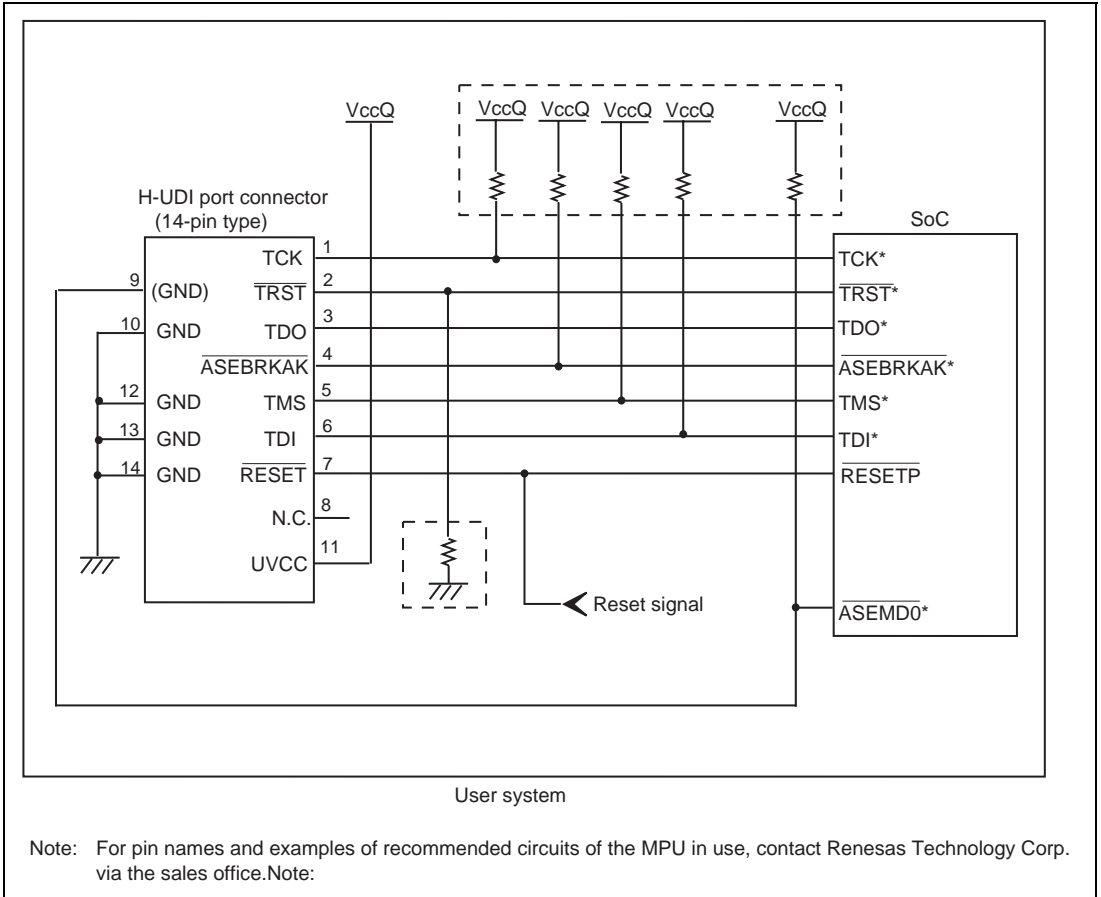

Figure 1.5 Recommended Circuit for Connection between the H-UDI Port Connector and MPU when the Emulator is in Use (14-Pin Type)
Figure 1.5 shows a recommended circuit for connection between the H-UDI and AUD port connectors (14 pins) and the MPU when the emulator is in use.
(1) When the emulator is used: /ASEMD0 = 0
(2) When the emulator is not used: /ASEMD0 = 1
Figure 1.5 shows an example of a circuit that allows the /ASEMD0 pin to be GND (0) whenever the emulator is connected by using the user system interface cable.
When the circuit is connected as shown in figure 1.5, the switches of the emulator are set as SW2 = 1 and SW3 = 1. For details, refer to section 3.8, Setting the DIP Switches, in the Debugger Part of the SuperH™ Family E10A-USB Emulator User's Manual.